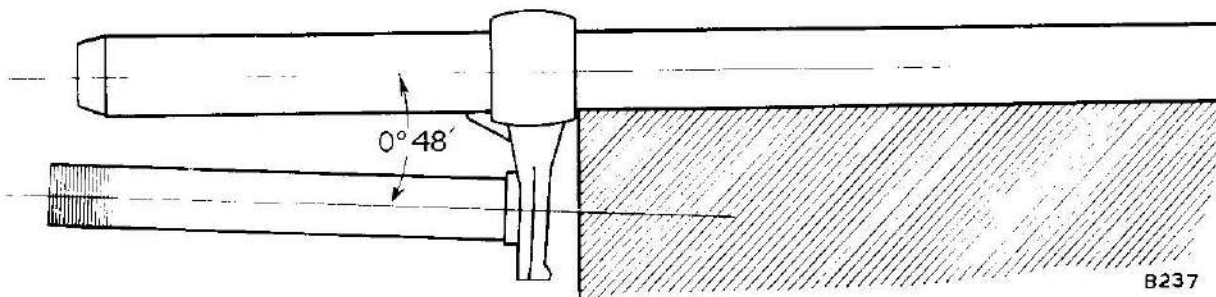

Fig. G6. Showing the correct angle and positioning between the stanchion and middle lug and stem
- (3) When the stanchions and middle lug assembly has been trued, the top lug can be used to check the position of the stem relative to the middle lug. For this purpose, the distance between the middle lug and top lug should be the same on either side and to achieve this the stanchions should be set in the middle lug to the figure given in Fig. G6. When the top lug is fitted the stem should be central in the top lug hole. If it is not a long tube can be placed over the stem and used to press the stem in the correcting direction. When this is achieved, re-check the fork assembly to ensure that the original alignment has not been adversely effected.